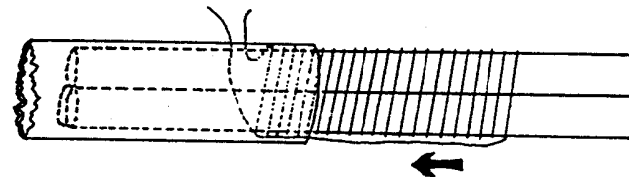

FIGURE 3
14. Now gently insert the ferrite rod assembly into the PVC tube, taking up the wire slack as you go. Continue until the rod is completely inserted into the tube and the entire length of each scrap wire has been pulled back through the feedthrough holes. See Figure 3.